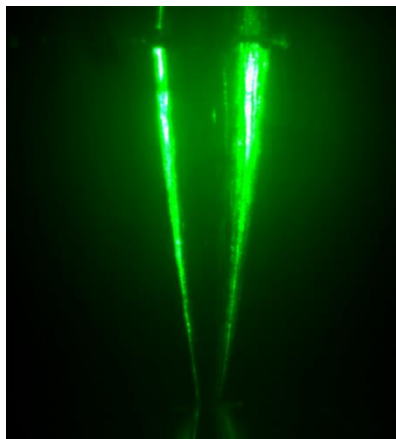

Fig. 3 View through the measuring microscope with the adjustment needle in focus
- Insert the adjustment in the top plate of the plate capacitor and focus the microscope on the needle (see Fig. 3). Select a suitable light intensity and re-adjust the height of the measuring microscope by means of the vertical adjustment knob.